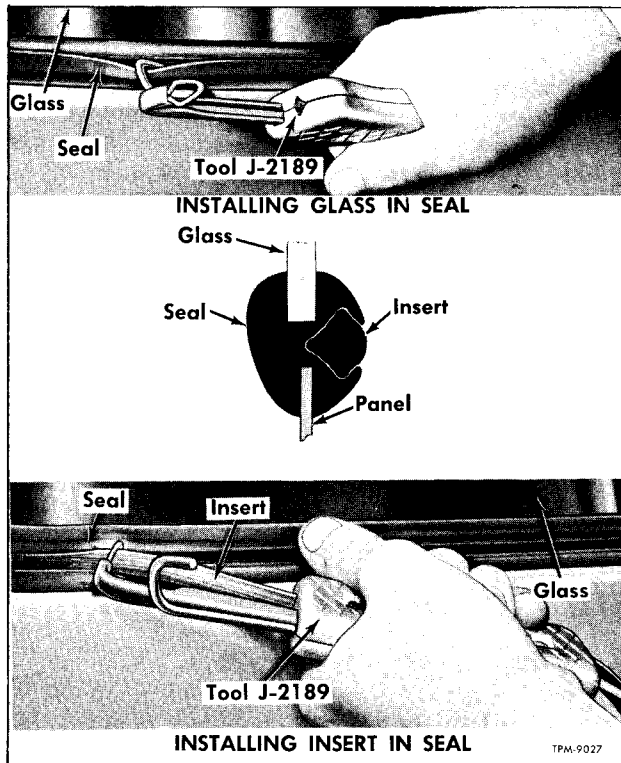

Figure 5—Replacing Insert-Retained Glass
A special insert-type rubber retainer seal is used to install all glass except long side windows. Windshield, rear window, astrolight, driver's window, entrance door, and No. 1 window glass sections are retained in body openings with bonded seal retainer assemblies which eliminate cutting of retainer to install glass. Although possible to install retainer and seal insert without use of special tool, seal and insert installer tool (J-2189) (fig. 5) is recommended to facilitate installation.
5. Thread end of rubber insert through handle and eye of seal installer tool (fig. 5). At point opposite joint in retainer seal, push tool eye and end of insert into seal groove. Feed into groove in retainer seal using a "hitching" motion to prevent elongation of insert.